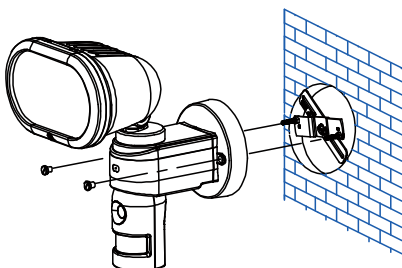

FIGURE 38
- (5) Place the wiring box and secure it with the two screws provided. (FIGURE 38)